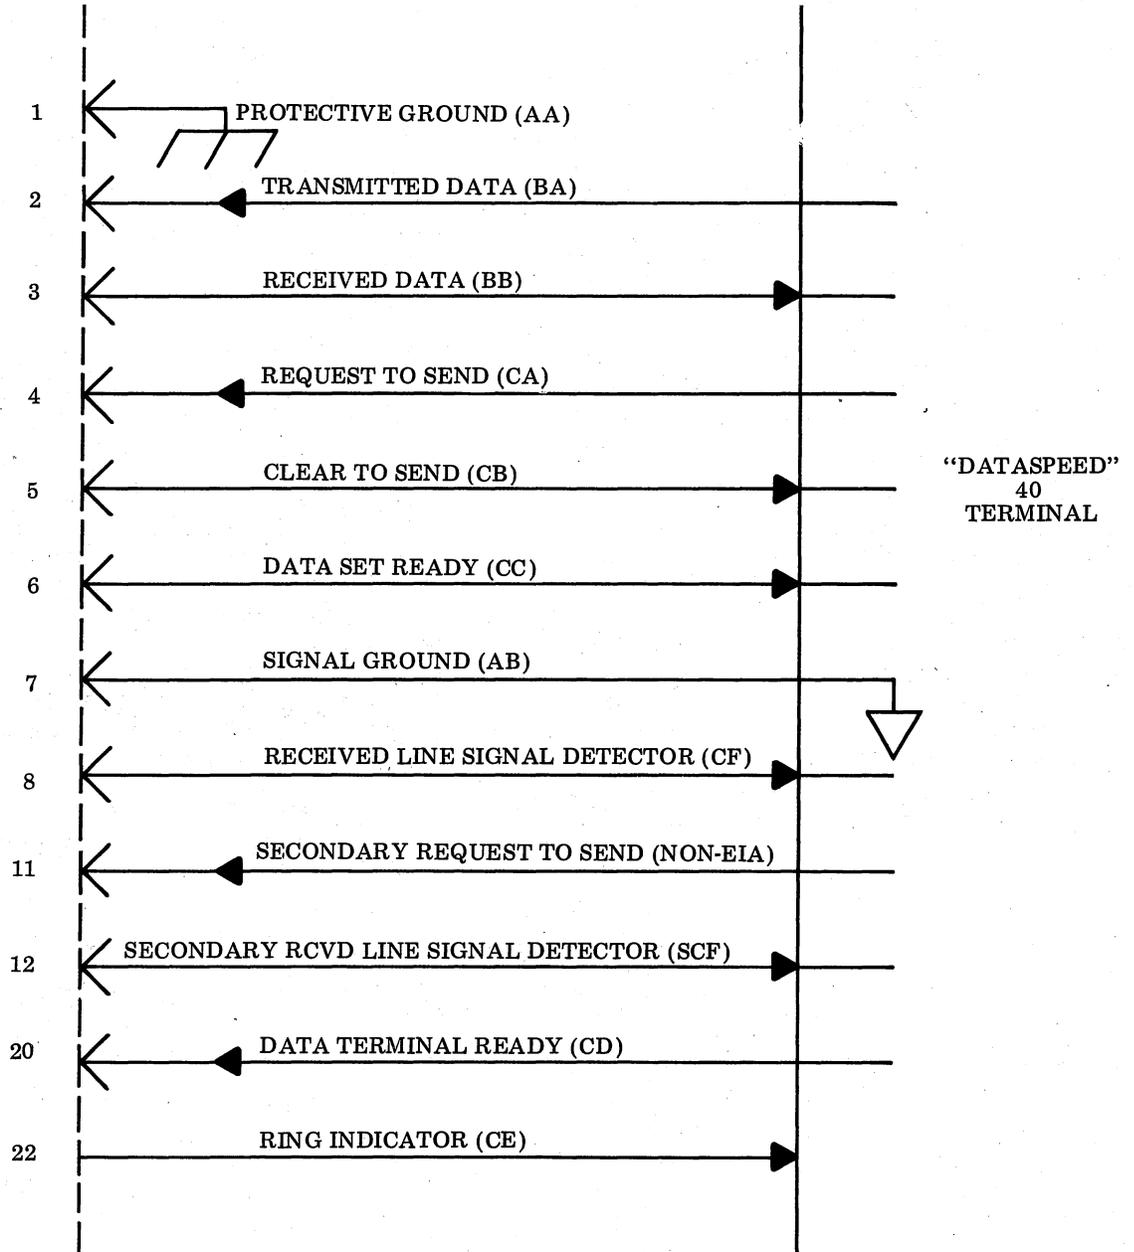

Figure 19 - EIA Interface Connections
2.48 DATASPEED 40 Stations operate on-line at 1200 baud with a field option available for 1050-baud operation. The data set used with the station must permit asynchronous operation at these speeds. The interface must conform to EIA (Electronic Industries Association) Specification RS-232-C. The active leads of the EIA interface for DATASPEED 40 operation are shown in Figure 19.